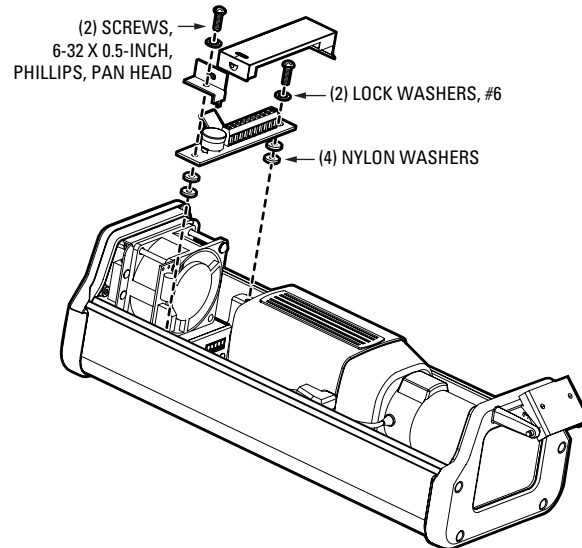

Figure 14. Reinstalling EH3512/EH3515 PC Board
- b. Attach the PC board and related accessories as follows (refer to Figure 14):